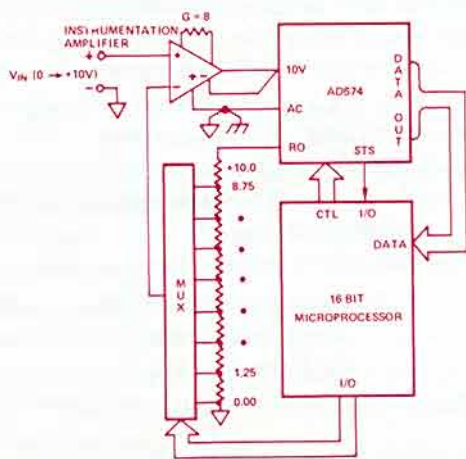

Figure 6. 15-bit ADC application.
A useful way of achieving 15-bit resolution (over the whole range) is shown in Figure 6. It utilizes a precision differential amplifier, an AD574, a microprocessor as the controller, and a rudimentary 3-bit DAC with 12-bit or better accuracy. Here, the gain of the basic a/d conversion never changes from 1.25V full-scale, referred to the analog input. Instead, the 0-10V input signal is dealt with by subtracting multiples of 1.25V (i.e., $10V/2^3$) from the input, searching for the condition where the remainder is between 0 and 1.25V in magnitude. The residual voltage (amplified 8x) is converted by the AD574, which (in effect) interpolates to twelve bits of resolution between the appropriate adjacent segment boundaries (0, 1.25V, 2.5V, . . . 8.75, 10.0V)
Since we are concerned with 15-bit operation (LSB = 31ppm = 0.3mV), extreme care must be taken to minimize IR drops and avoid ground loops. In Figure 6, we show a high-quality ground at the analog common (AC) pin of the AD574, and all signal grounds are returned to this point separately. If the signal-input low cannot be accurately referenced to the AC pin because of heavy currents flowing through the signal lines—which the designer is powerless to reduce further—then dc common-mode rejection must be incorporated. This can be implemented by connecting the positive output-sense line of the instrumentation amplifier to an inverting-ground sensing amplifier with a gain of 1/8, instead of the AC pin. Of course, all of the usual tradeoffs of noise and bandwidth apply, but remember that a single feedback capacitor alone won't control the noise bandwidth. The reference noise, less than 1mV peak-to-peak in 1MHz bandwidth, can be further reduced by shunting the RO pin with a large tantalum capacitor $C > 0.1\mu$ F, but care must be taken that the equivalent series resistance (ESR) of the capacitor be no more than a few ohms, to maintain loop stability.